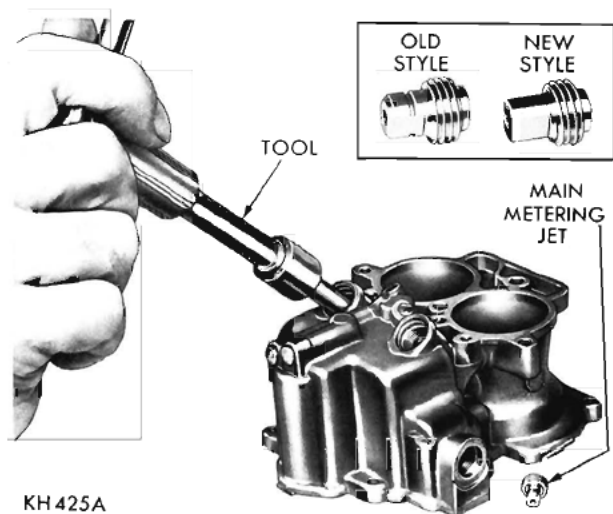

Fig. 7—Removing or Installing Main Metering Jets
jets, as shown in (Fig. 7). Do not substitute the main metering jets No. 388208 used in previous carburetors for No. 388539. (New type.)
(2) Insert the main metering jets in the body over the discharge jets (or tubes) just installed. Tighten securely, using Tool 73606. See (Fig. 7).
(3) Slide new copper gaskets in the main jet plug openings, then insert the plugs and tighten securely.
(4) Place the assembled throttle body on the inverted main body and position the insulator. Install screws and lockwashers, then tighten securely.
(5) Invert the carburetor and place on repair block C-3225, then install the power by-pass jet and new gaskets.